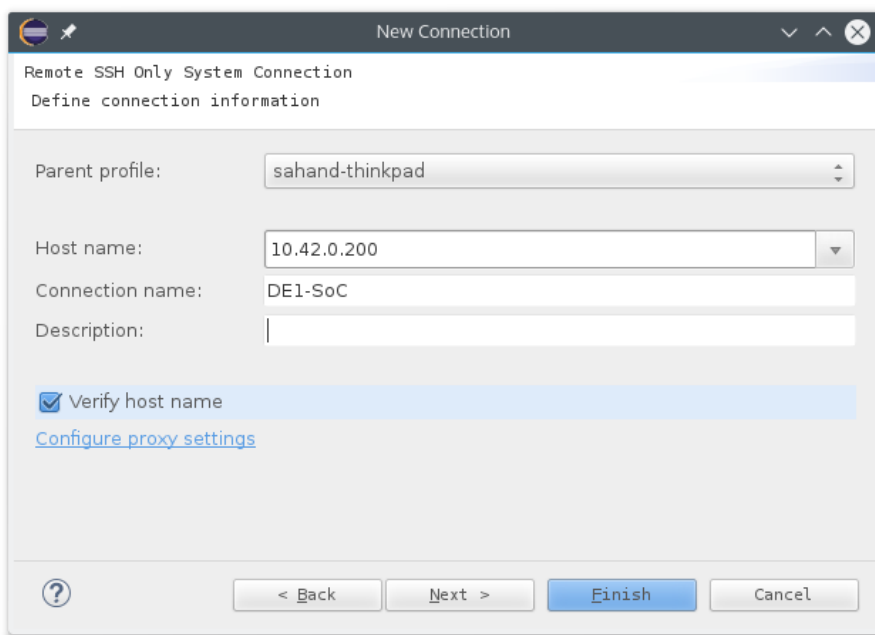

Figure 13-13. New SSH Only Connection
80. Enter “DE1-SoC” as the “Connection name”. You should have something similar to Figure 13-13.